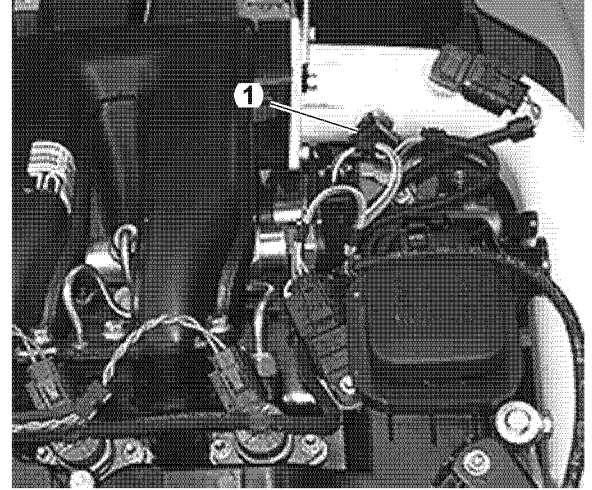

Figure 12-27
2. Disconnect electrical connector (1, **Figure 12-27**).